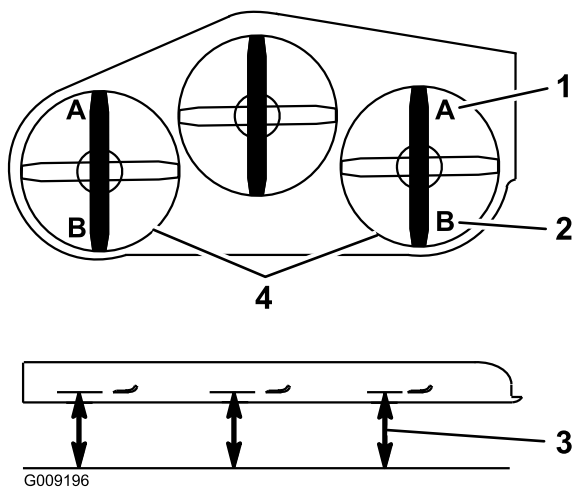

Figure 100
9. On both sides of the deck, measure from the level surface to the front tip of the blade (Position A) as shown in Figure 100.
15. On both sides of the deck, measure from the level surface to the back tip of the blade (position B) as shown in Figure 100.